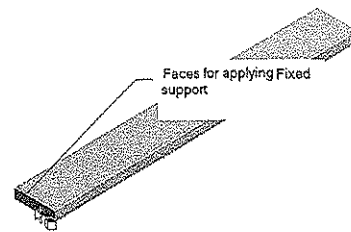

Figure 10-16 Face selected for applying Fixed support
3. Select the side face of the model, as shown in Figure 10-16.